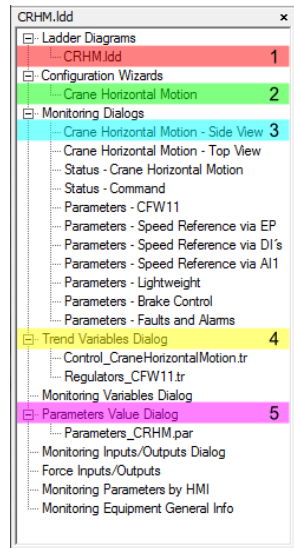

Figure 6.1 – Project Tree
Using WLP programming software can implement or change ladder application of Crane Horizontal Motion Application, configure the parameters through the Configuration Wizards (2), monitor parameters and variables through the Monitoring Dialogs (3), monitor variables through Trend Variables Dialogs (4), and upload/download drive parameters CFW-11 through the parameter Values Dialogues (5). The figure 6.1 presents the project tree where the functions mentioned before.